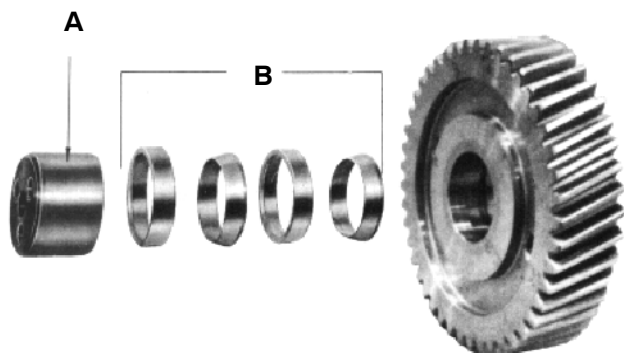

FIGURE 13 - TIMING GEAR ASSEMBLY
Impellers are held in time by timing gears, which are secured in position on the impeller shafts by grip rings inside the gear hubs. To reset impeller clearances (timing) it is necessary to release the grip rings in one of the gears. See FIGURE 13.
Refer to FIGURE 13 and FIGURE 14. Remove the cap screws and gear locking clamps (A) from both shafts. Inside the hub of each gear are two pairs of telescoping grip rings (B) which secure the gear to the shaft. These grip rings must be released to remove the gear.
To reassemble, locate each gear firmly against the bearing race on its shaft. Thoroughly clean and dry all components – the grip rings, shafts and gear bores; coat the grip rings with a light oil, then slide the grip rings all the way onto the bores. Be sure the rings are paired and faced identically as originally installed, as shown in FIGURE 13. (Note: do not reuse grip rings which have been disassembled, since they lose concentricity and locking characteristics.)